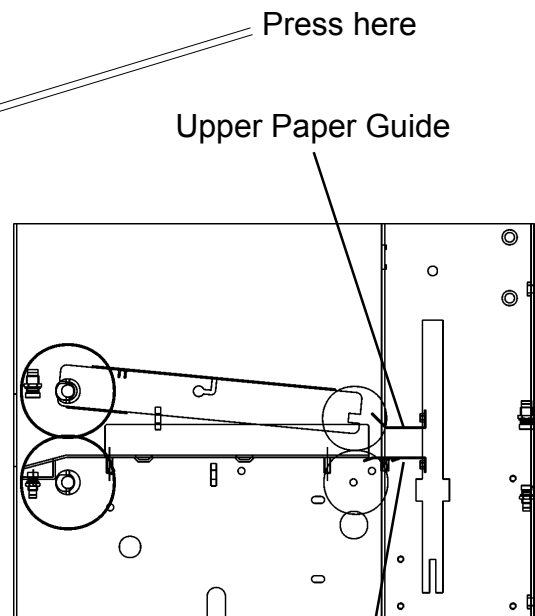

FIGURE 2
5. Remove upper and lower Paper Guides, **FIGURE 2**